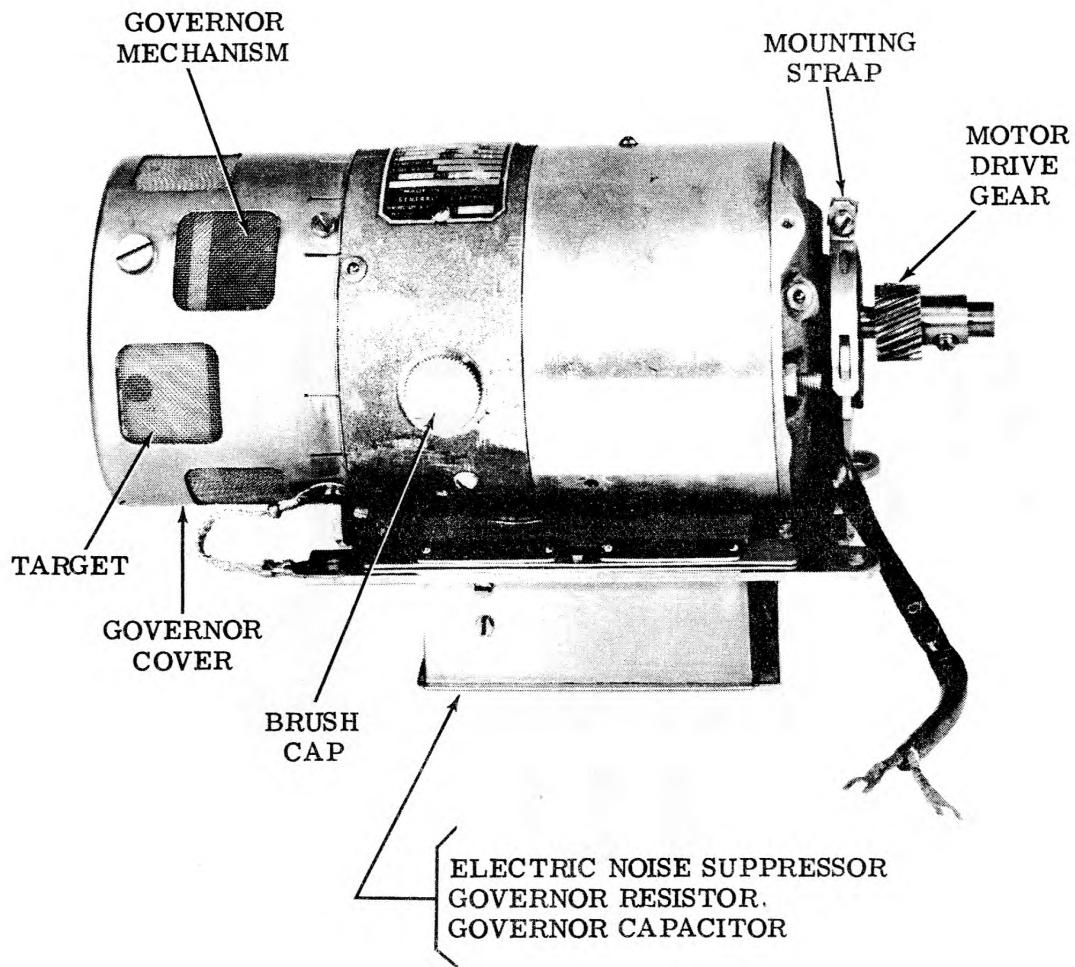

Figure 3 - Typical Series (Governed) Motor Unit
1.04 The series (governed) type motor units (Figure 3) are available in standard and heavy duty horsepower ratings and may be operated from regulated or unregulated, standard, single-phase power sources, or dc (direct current). The series (governed) type motor unit is also available for operation with 48 volts dc only. Specifications are given in Table III.
#### SERIES (GOVERNED) MOTOR UNITS (Fig. 3)
## SERIES (GOVERNED) MOTOR UNITS (Figs. 3 and 5)